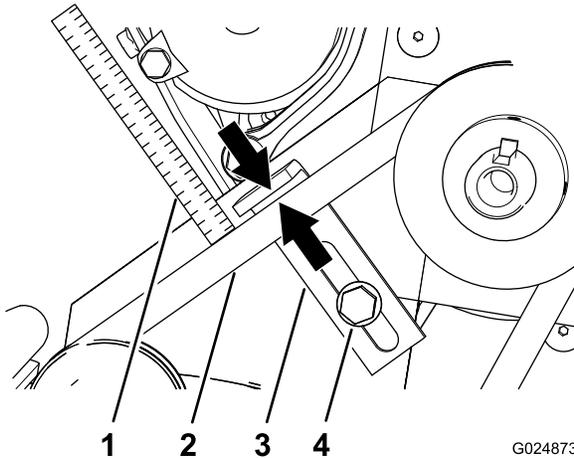

Figure 26
**Note:** If the air gap is larger or smaller than 6 mm (1/4 inch), adjust the belt guide (Figure 26); refer to Adjusting the Belt Guide (page 20).
2. Measure the air gap between the belt and the belt guide (Figure 26).
1. Loosen the hex-flange head bolt that secures the belt guide to the engine plate (Figure 26).
2. While keeping the top of the belt guide parallel to the belt, move the belt guide toward or away from the belt until the air gap is correct (Figure 26).
3. Tighten the hex-flange head bolt that secures the belt guide to the engine plate (Figure 26).